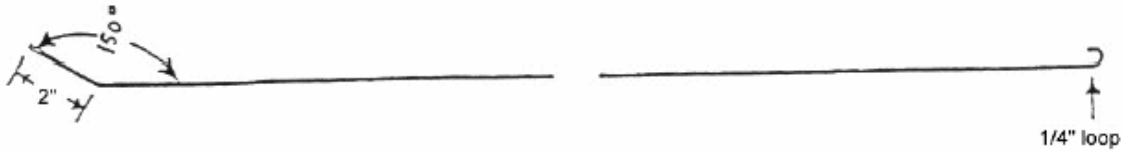

Fig. R-1: Cable fishing tool, 36" gas welding rod, 1/16" dia.
- STEP 6: Fabricate a cable fishing tool from the 1/16" diameter X 36" gas welding rod as shown in figure R-1. Make the 2" bend and the 1/4" loop on the opposite end of the rod on the same plane.